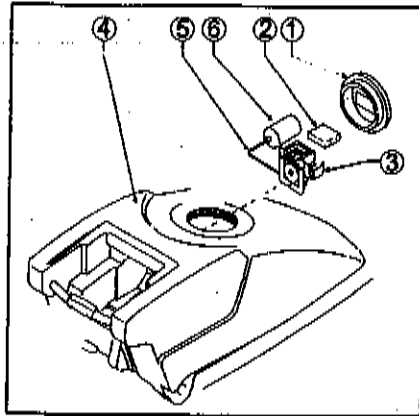

Fig. 15
While washing the recovery tank never remove the suction filter (fig. 15, ref. 2) from its seat and never direct the jet of water towards the filter itself.
- unscrew and take off the tank cap (fig. 15, ref. 1) from the recovery tank (fig. 15, ref. 4);
- make sure that the recovery tank (fig. 15, ref. 4) is empty;
- take out the air filter (fig. 15, ref. 2) of the suction unit from the float support (fig. 15, ref. 3), which is located on the upper inner side of the recovery tank;
- check that the floating rod (fig. 15, ref. 5), which is also fixed to the support (fig. 15, ref. 3), moves freely and clean it, if necessary;